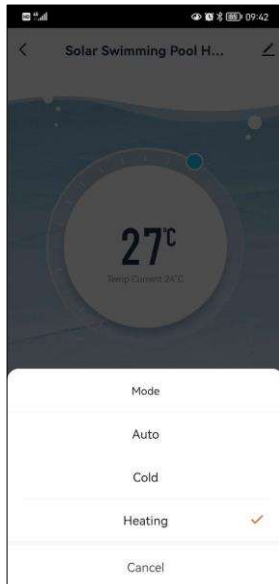

Fig.20 Mode changing interface
- You can switch the unit among heating, cooling and automatic mode under mode changing interface. And the home page will display the icon corresponding to the selected mode (Fig.20).